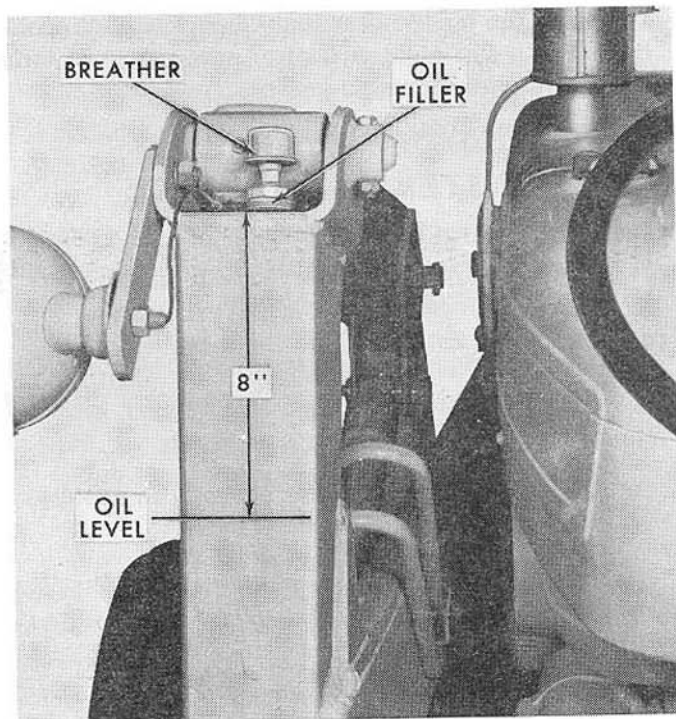

Figure 6
Check the oil level in the loader hydraulic system daily. Maintain the oil level 8 inches from the top of the filler plug opening, as shown in Figure 6.
1. Remove the breather assembly and oil filler plug, Figure 6.
3. Place a clean drain pan under the post. Using an Allen wrench, remove the drain plug from the oil filter retainer and allow the oil to drain from the reservoir. Removing the drain plug will allow oil to pass through the filter as it drains. The oil will drain faster if the oil filler plug, Figure 6, is removed. After the oil has drained, remove the pan and oil from under the unit and reinstall the oil filler plug.
11. Fill the hydraulic system with Ford Specification M-2C48-A Hydraulic Oil until the oil level is 8 inches from the top of the filler plug opening, as shown in Figure 6. System capacity is approximately 10-1/2 U.S. gallons.